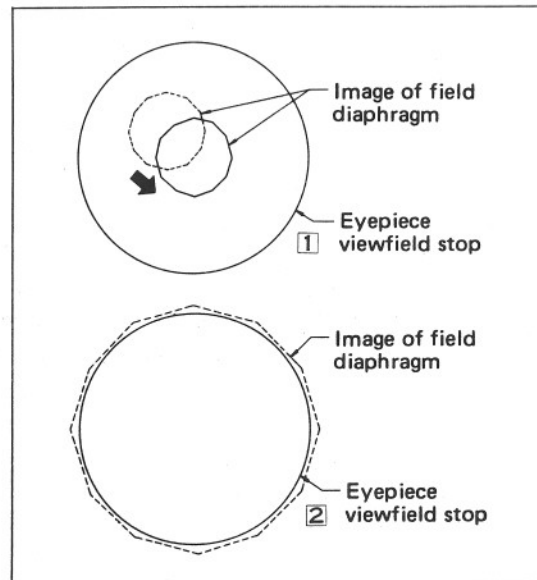

Fig. 19
- (1) Close the field diaphragm in the microscope base to its smallest size by means of the field diaphragm control ring. Rotate the condenser focus knob to move the condenser vertically so that a sharp image of the field diaphragm is formed on the specimen surface.
- (2) Bring the field diaphragm image to the center of the field of view by means of the condenser centering screws.
(Fig. 19- ①)
- (3) Change over to the 40X objective, and adjust the field diaphragm so that the image of the diaphragm is about the same as that of the field of view, as shown in Fig. 19-②. If not centered, use the condenser centering screws again.